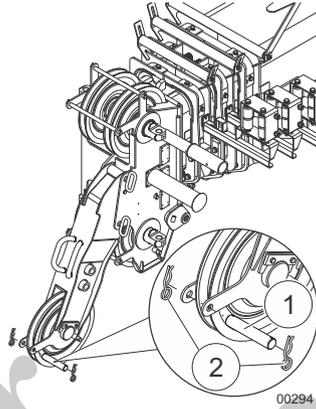

Fig. 178 Attaching the rope guard to the auxiliary jib
- 5 Insert the rope guard (1) in Fig. 178 into the auxiliary jib sheave and secure it with spring cotter pins (2) in Fig. 178.